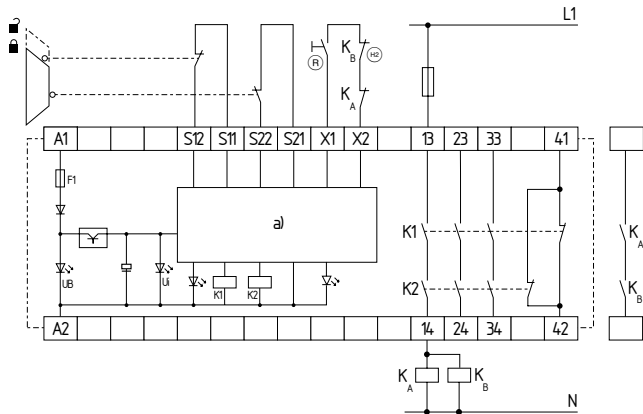

Fig. 2
Dual-channel control, shown for a guard door monitor with two position switches where one has a positive break contact; with external reset button (R) (Fig. 2)
- (R) = Feedback circuit